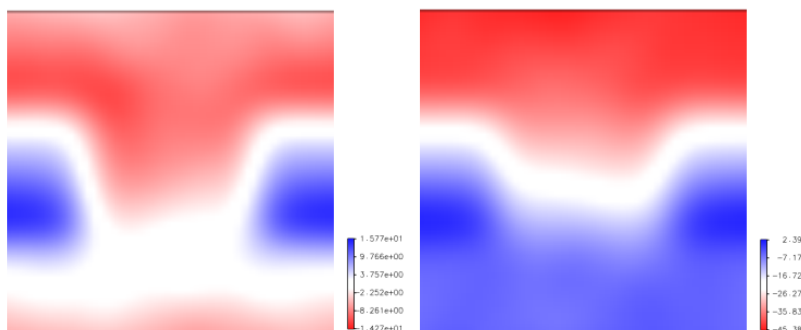

Figure 7: Electrostatic potential as determined by the VMD PMEPot plugin.
- 3 Rotate your molecule, you should be able to see something similar to what is shown in Fig. 7. Is the potential similar to the reaction potential shown in Fig. reffig:diagram2?
The total electrostatic potential of the system can be obtained by adding the linear applied potential to the measured reaction potential. We show in the right panel of Fig. 7 the outcome of the addition, resulting in flat negative and positive potentials at each side of the membrane, as expected for the total electrostatic potential. Future versions of the PMEpot plugin will allow you to add the corresponding applied bias automatically. Future versions of VMD will allow you to extract potential and density one- or two- dimensional profiles.